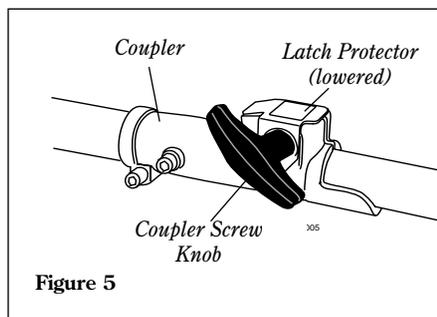

Figure 5
4. When the two tube halves are locked together, press down on the spring-loaded latch protector and tighten the coupler screw knob. See Figure 5.